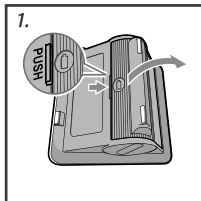

Fig.2
1. Open the battery compartment cover (fig.2).